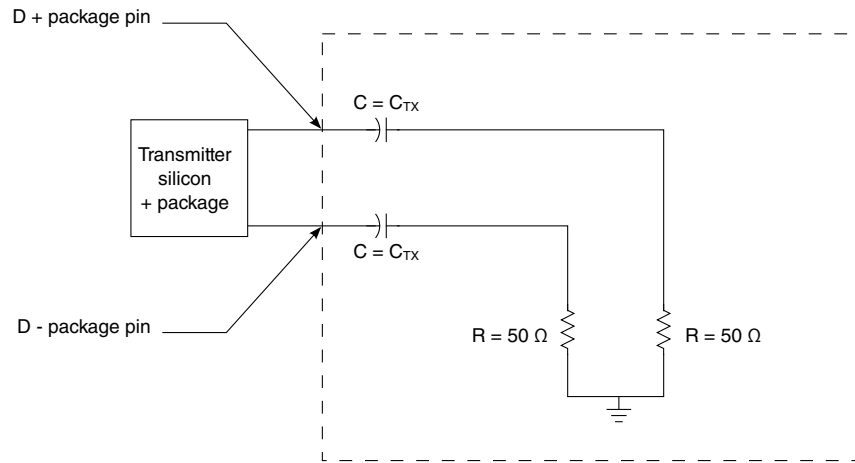

Figure 41. Test/measurement load
1. Specified at the measurement point into a timing and voltage test load as shown in Figure 41 and measured over any 250 consecutive transmitter UIs.
<p>1. Specified at the measurement point and measured over any 250 consecutive UIs. The test load in Figure 41 must be used as the receiver device when taking measurements. If the clocks to the receiver and transmitter are not derived from the same reference clock, the transmitter UI recovered from 3500 consecutive UI must be used as a reference for the eye diagram.</p> <p>2. A $T_{RX-EYE} = 0.40$ UI provides for a total sum of 0.60 UI deterministic and random jitter budget for the transmitter and interconnect collected any 250 consecutive UIs. The $TRX-EYE-MEDIAN-to-MAX-JITTER$ specification ensures a jitter distribution in which the median and the maximum deviation from the median is less than half of the total. UI jitter budget collected over any 250 consecutive transmitter UIs. It must be noted that the median is not the same as the mean. The jitter median describes the point in time where the number of jitter points on either side is approximately equal as opposed to the averaged time value. If the clocks to the receiver and transmitter are not derived from the same reference clock, the transmitter UI recovered from 3500 consecutive UI must be used as the reference for the eye diagram.</p> <p>3. It is recommended that the recovered transmitter UI is calculated using all edges in the 3500 consecutive UI interval with a fit algorithm using a minimization merit function. Least squares and median deviation fits have worked well with experimental and simulated data.</p> <p>4. For recommended operating conditions, see Table 3.</p> <p>5. The $TRX-EYE-MEDIAN-to-MAX-JITTER$ for common and separated reference clock architecture.</p> <p>6. If spread spectrum clocking is desired, common clock receiver architecture must be used.</p> <p>7. The AC specifications do not include Refclk jitter.</p>